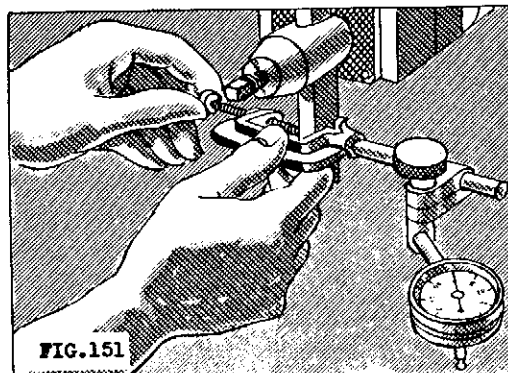

FIG. 151
4. Clamp the assembled indicator in the tool post or to the shank of the tool holder (Fig. 151).